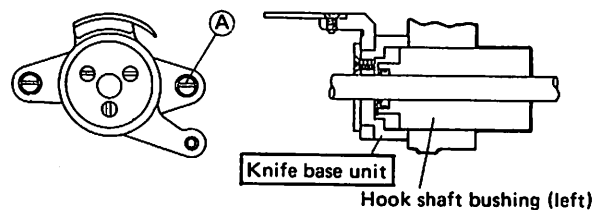

Fig. 3
(1) As shown in Fig. 3, fit the knife base unit to the hook shaft bushing (left) and fix with the screws (A).